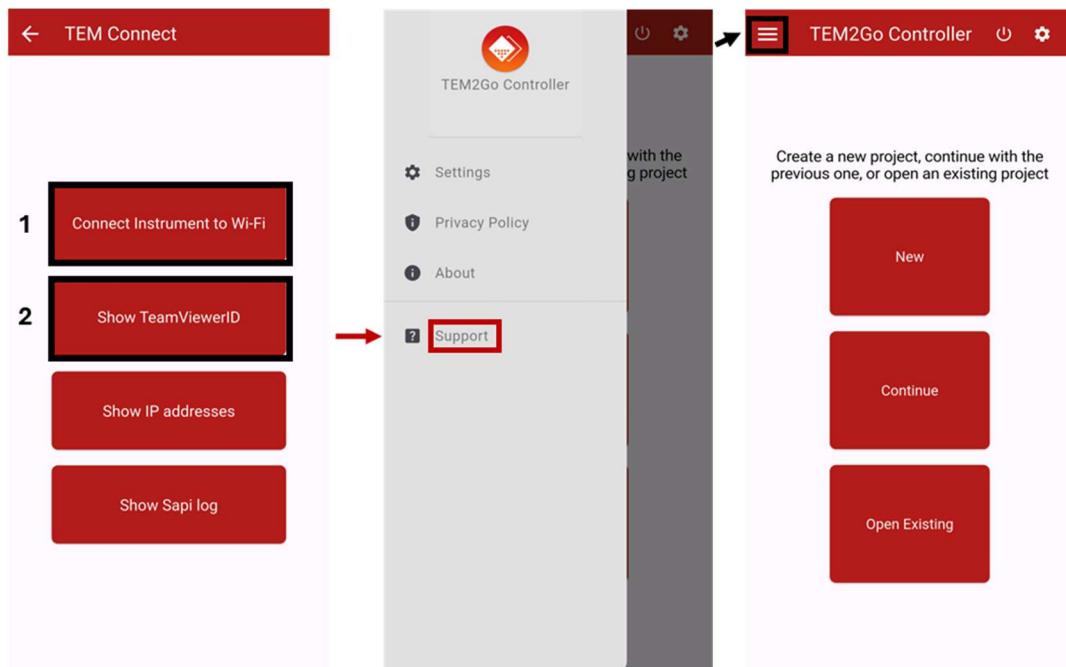

Figure 41: How to connect the unit to external Wi-Fi by using the Controller App
1. By using the TEM2Go Controller App (Figure 41)